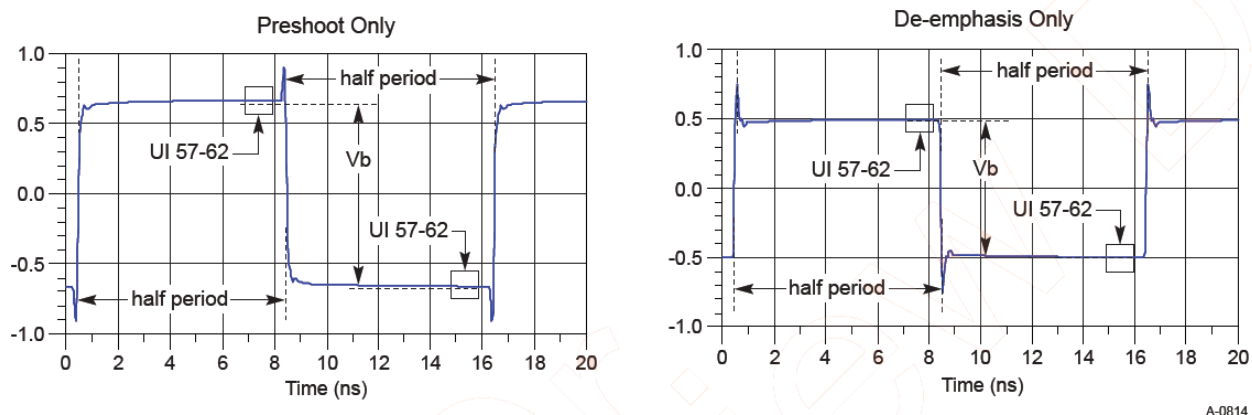

Figure 185 Waveform measurement points for preshoot and de-emphasis
8.0 GT/s, 16.0 GT/s and 32.0 GT/s PCIe signaling must support the full range of presets given in Table 8-1 (PCIe Base Specification Revision 5.0). Presets are defined in terms of ratios, relating the pre-cursor (V_c) is referred to as pre-shoot, while the post-cursor (V_b) is referred to as de-emphasis. This convention permits the specification to retain the existing 2.5 GT/s and 5.0 GT/s definitions for Tx equalization, where only de-emphasis is defined, and it allows preshoot and de-emphasis to be defined such that each is independent of the other. The tolerances in Table 8-1 (PCIe Base Specification Revision 5) also apply to 2.5 and 5.0 GT/s de-emphasis. The maximum swing, V_d , is also shown to illustrate that, when both c_{+1} and c_{-1} are nonzero, the swing of V_a does not reach the maximum as defined by V_d . The high frequency nature of PCIe signaling makes measurement of single UI pulse heights impractical. Consequently all amplitude measurements are made with low frequency waveforms as shown in Figure 185.